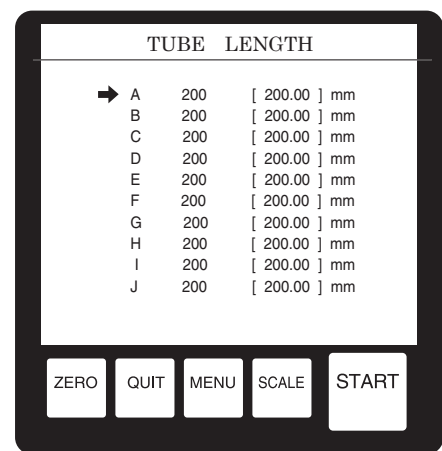

Fig.11-2
- The screen shown in Fig.11-2 will appear on the display panel. Press $\uparrow$ or $\downarrow$ to shift the arrow ($\rightarrow$) to select the desired observation tube (A~J). Fig.11-2 shows that tube A is selected, as an example.